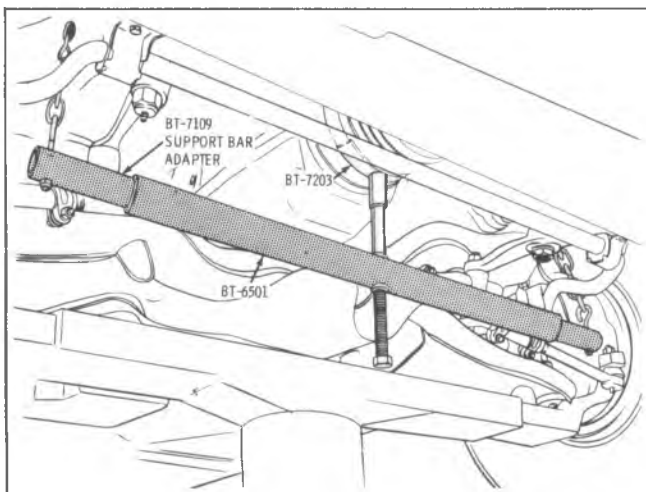

Fig. E-51—Engine Support Tools
9. Remove engine mounts from engine block, then jack front of engine up, using Engine Support Tool BT-6501. (Fig. E-51)